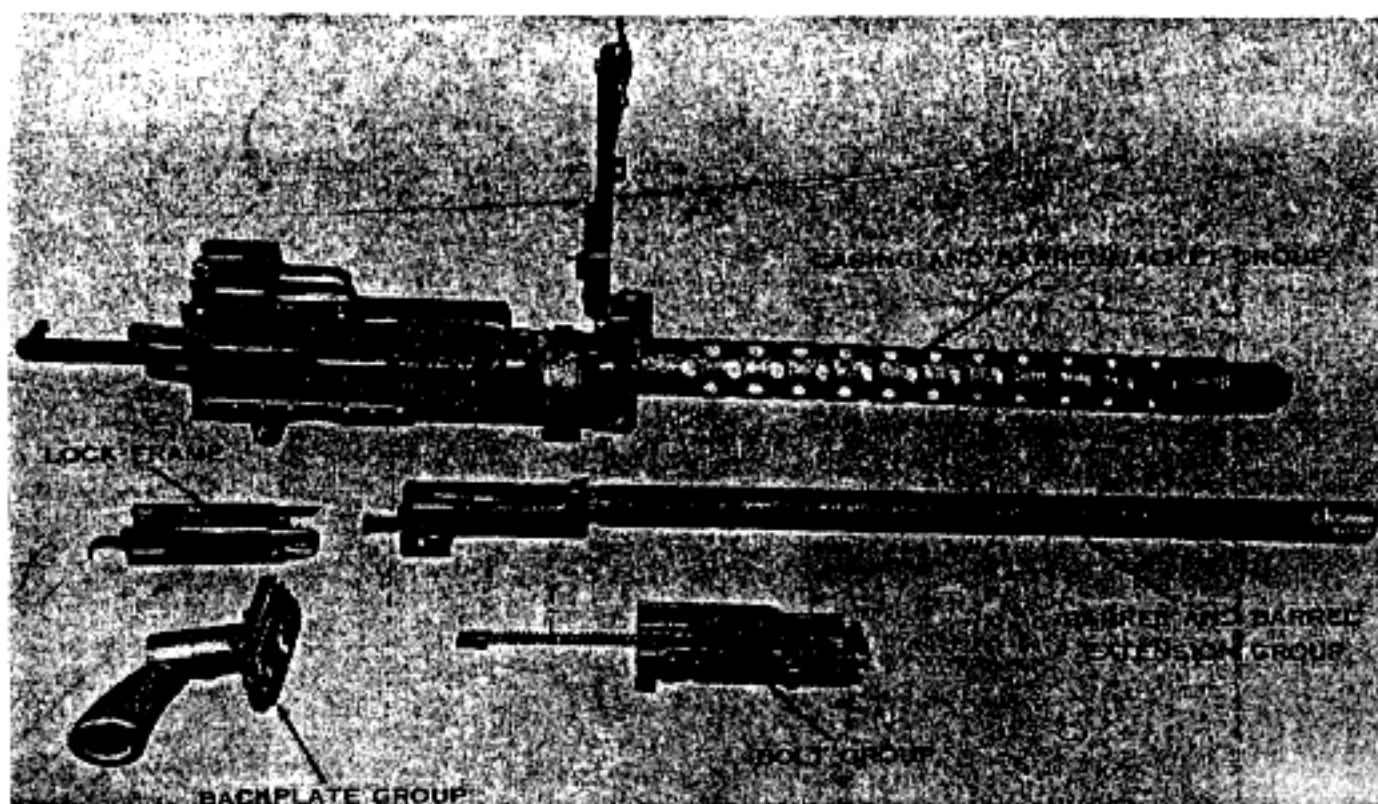

Figure 11. The major groups removed from inside the receiver (M37).
- (6) The M37 machinegun is disassembled into the groups shown in figure 11 in the manner described in *b* through *g* below.